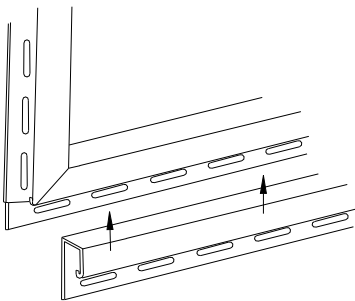

Figure 8.
- When installing CraneBoard panels under windows, use a snap lock punch to secure the panel into the J channel. Depending upon where the window cut falls on the panel, you may need to install universal J or shim out a piece of finish trim and install into the 1- $\frac{1}{8}$ " under the window. Snap lock the cut edge into this trim (Fig. 8).